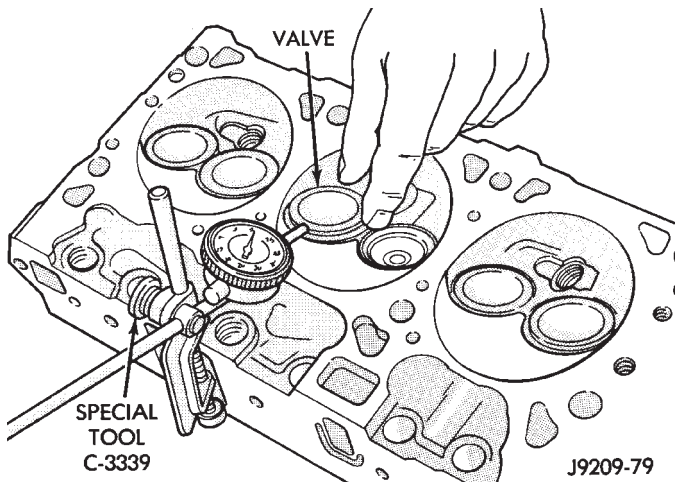

Fig. 58 Measuring Valve Guide Wear
- (2) Attach dial indicator Tool C-3339 to cylinder head and set it at right angles to valve stem being measured (Fig. 58).
- (3) Move valve to and from the indicator. The total dial indicator reading should not exceed 0.432 mm (0.017 in.). Ream the guides for valves with oversize stems if dial indicator reading is excessive or if the stems are scuffed or scored.